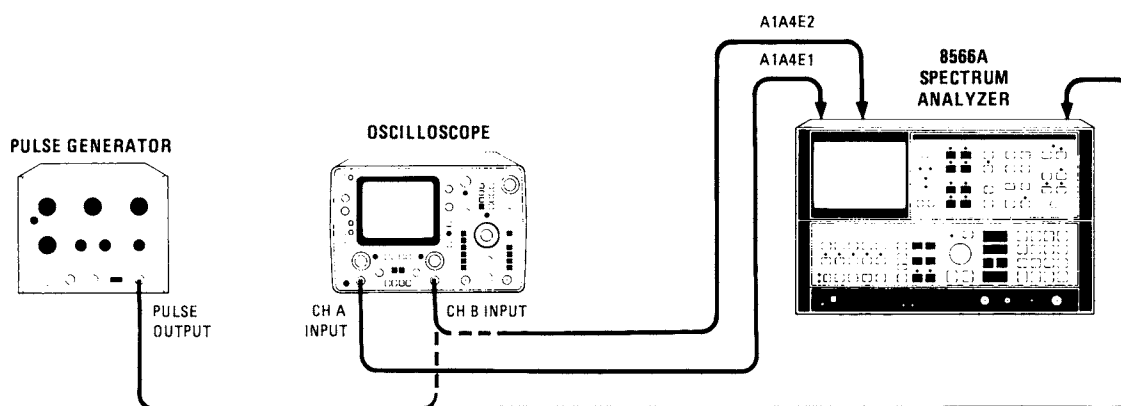

Figure 5-8. Preliminary Display Adjustments Setup
1. Connect Channel A calibrated 10:1 divider probe to A1A4E1 and Channel B probe to A1A4E2 as shown in Figure 5-8.